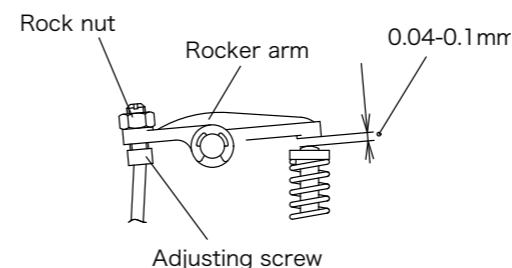

Fig2
4. The proper clearance setting is between 0mm (0.000") and 0.1mm (0.004"). The adjustment is achieved by loosening the locknut ("Fig.2") and turning the adjustment screw. The engine must be at top dead center on the compression stroke before any adjustments are made. This engine runs best with the valves set at a tight setting. If the valves are set too loose, power will be affected.